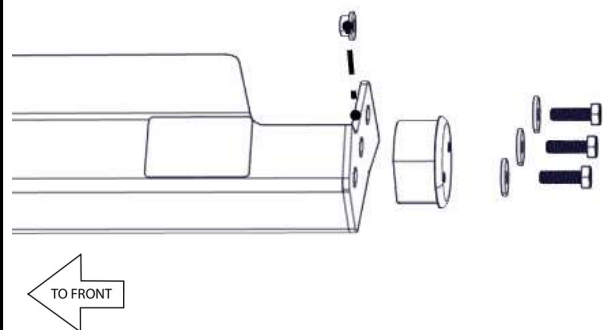

Fig. 6
3. Thread three ⑥ M6x20mm Hex Head Bolts and three ⑦ M6 Flat Washers into the rear of the ① Rock Slider. The two bolts in the ⑨ Blind Plug are torqued to 10 Nm (1.0 kg-m or 7.3 lb-ft). The inner ⑥ M6x20mm Hex Head Bolt is torqued to 5 Nm. (0.5 kg-m or 3.6 lb-ft) (Fig. 6)
4. Align the ① Left Rock Slider on the front left side of the vehicle.
5. Just behind the front wheel, hold the ④ Nut Plate against the inside tab on the ① Rock Slider in the front. Thread two ③ M10x30mm
Flanged Bolts and two (8) M10 Flat Washers through the frame and into the (1) Rock Slider. (Fig. 6)
6. Torque the four (3) M10x30mm Flanged Bolt bolts to 47 Nm (4.7 kg-m or 34.6 lb-ft)
7. Repeat Steps 1 through 6 for the other side of the vehicle for (2) Right Rock Slider.